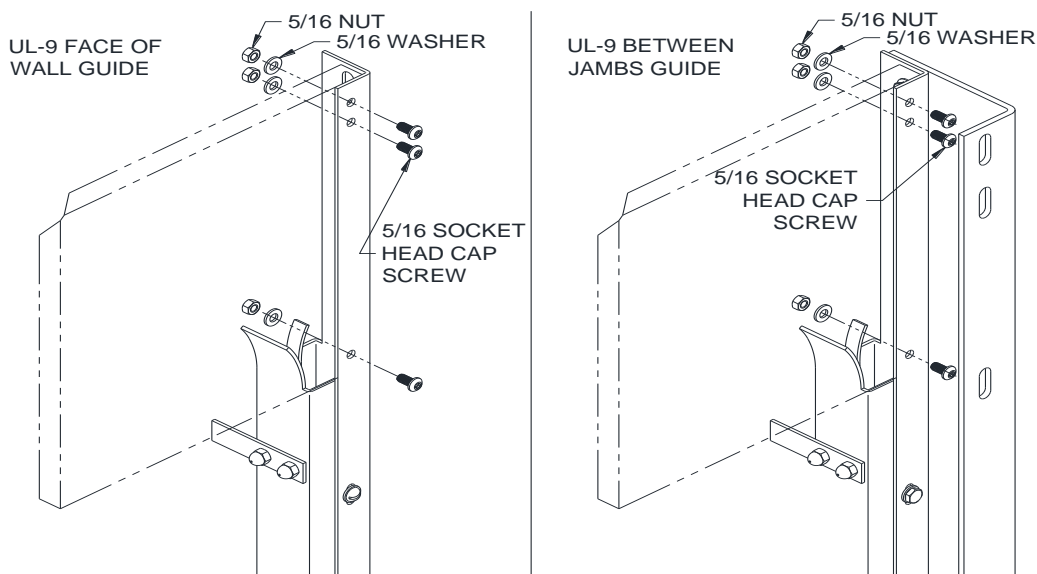

Figure 6.5– UL-9 Bracket Mounting and Hardware
- c. Measure the distance between the brackets and compare that to the distance measured to the inner guide shapes. See **Figures 6.5 and 6.6** below for bracket locations in relation to the guide shape.
7. Insert the specified bolts and snug tighten, see **Figures 6.5 and 6.6**.